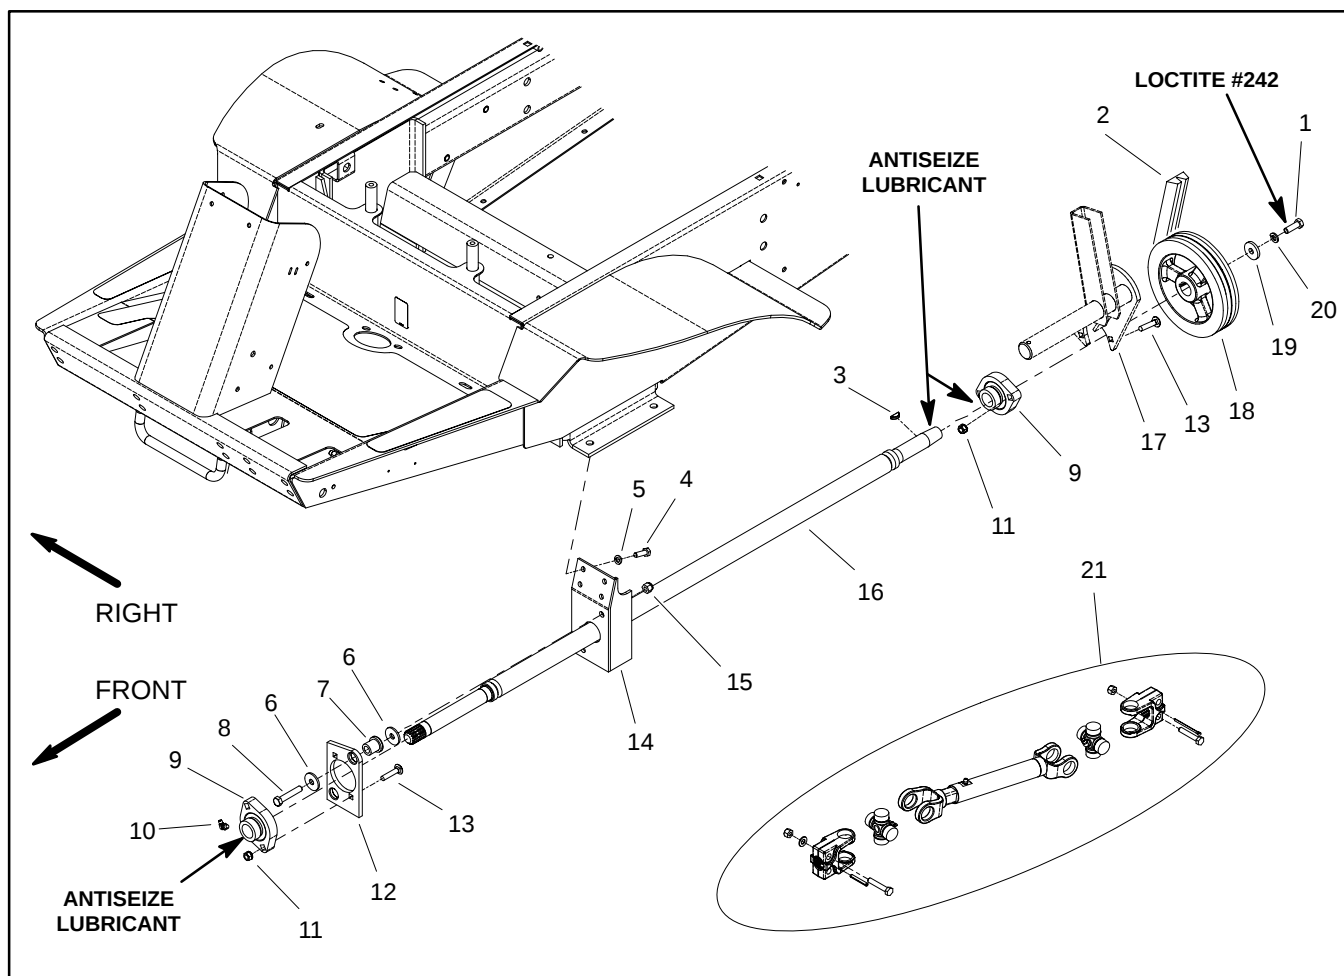

Figure 5
Removal (Fig. 5)
Installation (Fig. 5)
12. If required, disassemble front flange bearing, bearing bracket and support plate using Figure 5 as a guide.